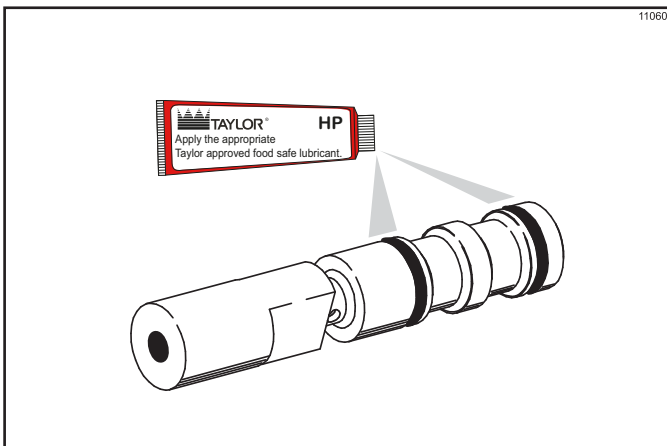

Figure 6-9
8. Assemble the draw-valve spinner assembly. Inspect draw-valve O-rings for cuts or nicks. (Replace if cut or nicked.) If draw-valve O-rings are in good condition, slide the two O-rings into the grooves of the draw valve and lubricate. (See Figure 6-9.)